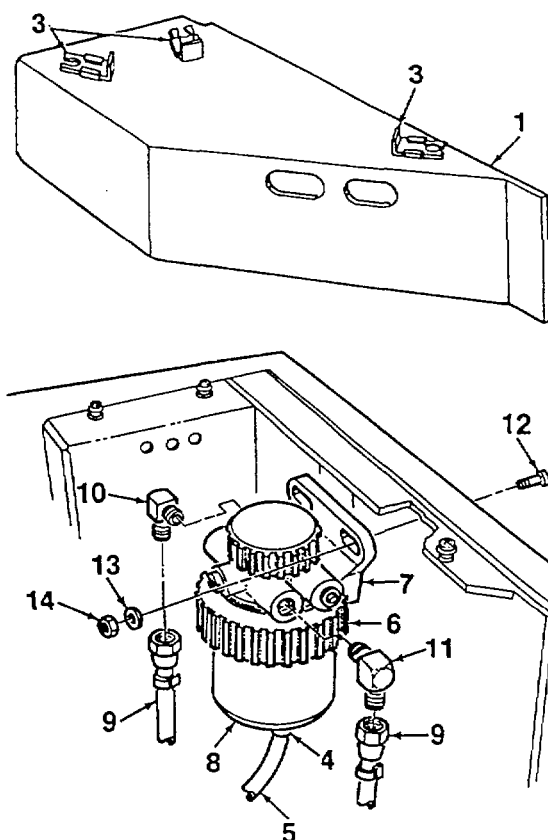

Figure 4-21. Filter Water Separator
1. Slide fuel module cover latches (3, Figure 4-21) back to disengage, and remove fuel module cover (1) from fuel module enclosure (2).
2. Remove cover latches (3) and locking screws only if replacement is required.
3. Open drain valve (4) and drain trapped water through hose (5). Close drain valve and disconnect hose.
4. Unscrew filter ring (6) from filter header (7).
5. Remove filter element (8) from filter header (7). Discard element.
6. Tag fuel hoses (9). Disconnect fuel hoses from elbows (10, 11). Remove elbows from fuel filter header (7).
7. Remove filter header (7) from fuel module by removing screws (12), washers (13), and locknuts (14).
1. Apply thread sealant to threads of elbows (10, 11, Figure 4-21) that install into fuel filter header (7). Install elbows (see figure for orientation).
2. Mate filter header (7) to fuel module and secure using screws (12), washers (13), and locknuts (14).
3. Connect drain hose (5) to drain valve (4). Ensure drain valve is closed.
4. Connect fuel hoses (9) to elbows (10, 11).
5. Screw new filter element (8) into header (7). Tighten bolt (8) to secure element. Install filter ring (6).
6. Mate fuel module cover (I) to enclosure housing (2). Lock in place by engaging cover latches (3).